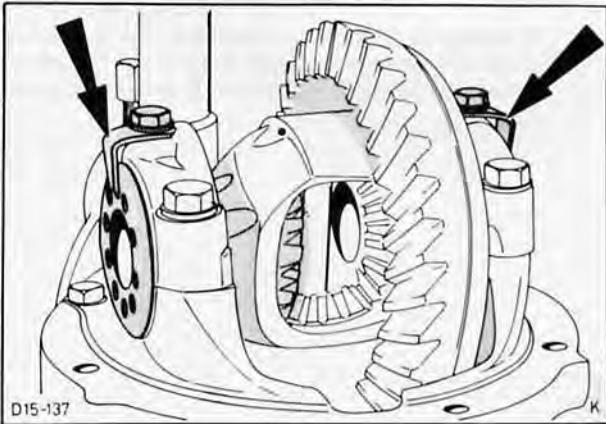

Fig. 128. Lock ring nuts
37. Attach locking elements (2) to ring nuts, Fig. 128.